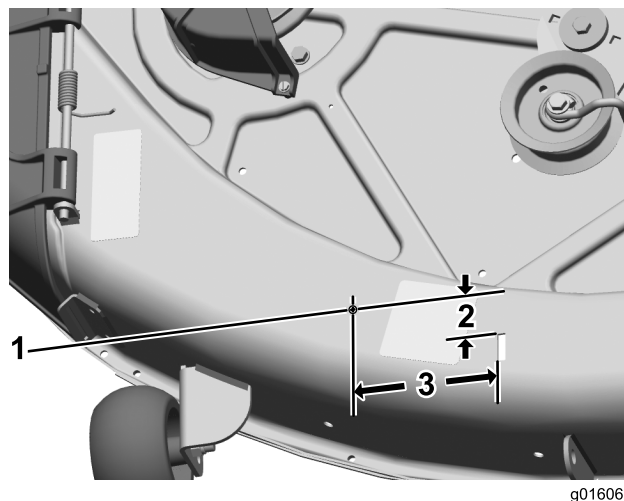

Figure 2
1. Flange nut (2)
2. Drill a hole for the right deck belt guard in the mowing deck as shown in Figure 2.